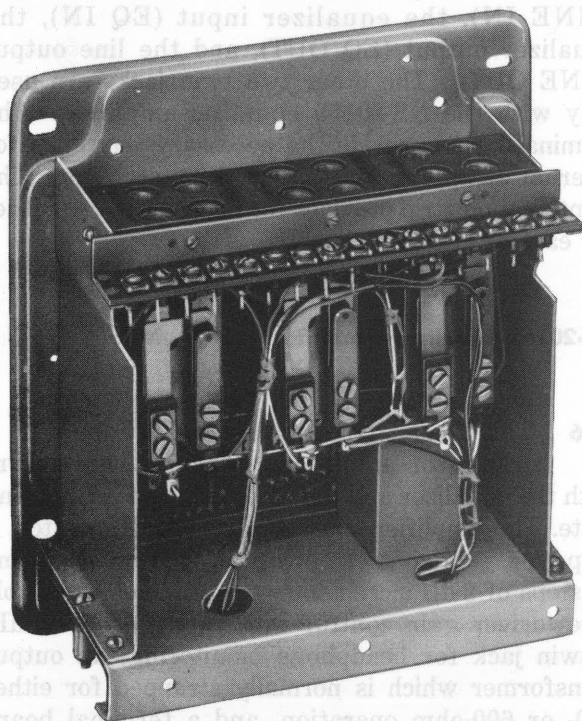

Fig. 2—L3 Equalizer and Apparatus Box Cover
1.04 The KS-20159 L3 and L4 equalizers are essentially identical and differ only in that the L3 (Fig. 2) is mounted in a 105B apparatus box. The L4 is intended for rack-mounting application or as a component part of the KS-20159 equalizer-amplifier. The unit uses a plug-in printed wiring board which contains the coil, capacitor, switch, and 10-turn potentiometer of the equalizer circuit. The chassis consists of a jack field of six twin jacks, two terminal strips, repeating coil, and an identification strip.